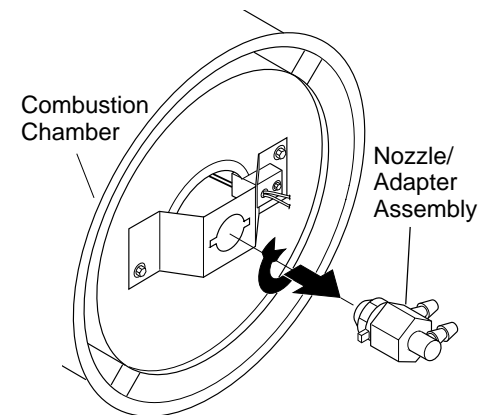

Figure 18 - Removing Nozzle/Adapter Assembly
4. Turn nozzle assembly 1/4 turn to left and pull toward motor to remove (see Figure 18).